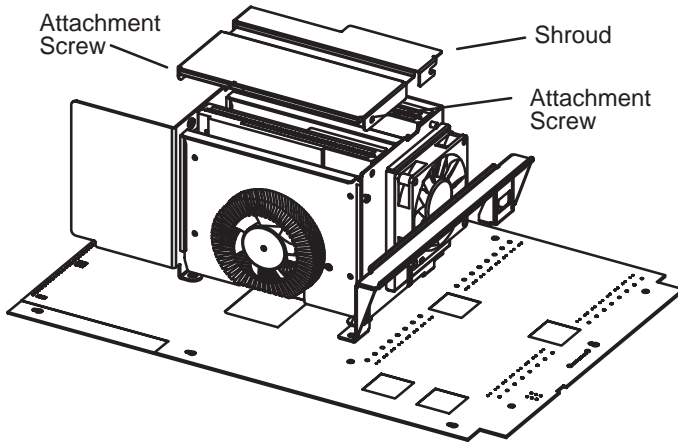

Figure 5–18. CPU Shroud Location (J282, J2240)
2. Disconnect the fan cable from the system motherboard. Refer to Figure 5–19 or Figure 5–20.